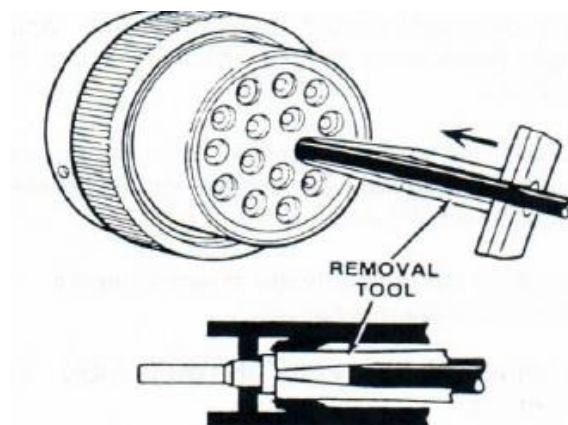

Figure 149
4. Carefully slide the wire contact and removal tool straight out of the connector. Figure 149